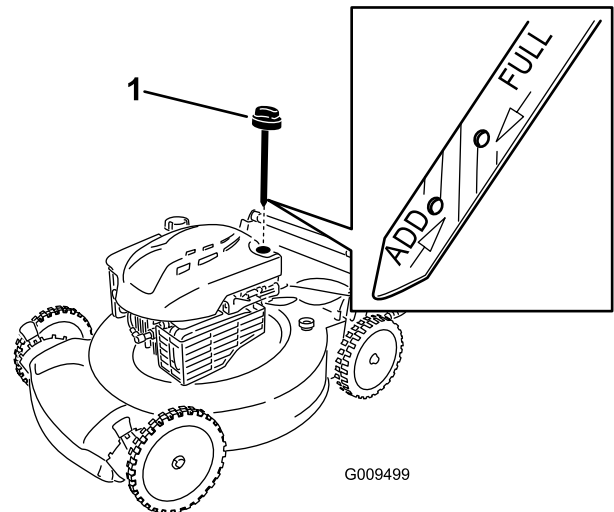

Figure 12
2. Remove the dipstick (Figure 12).
5. Read the oil level on the dipstick (Figure 12).
through 5 until the oil level is at the Full mark on the dipstick (Figure 12).